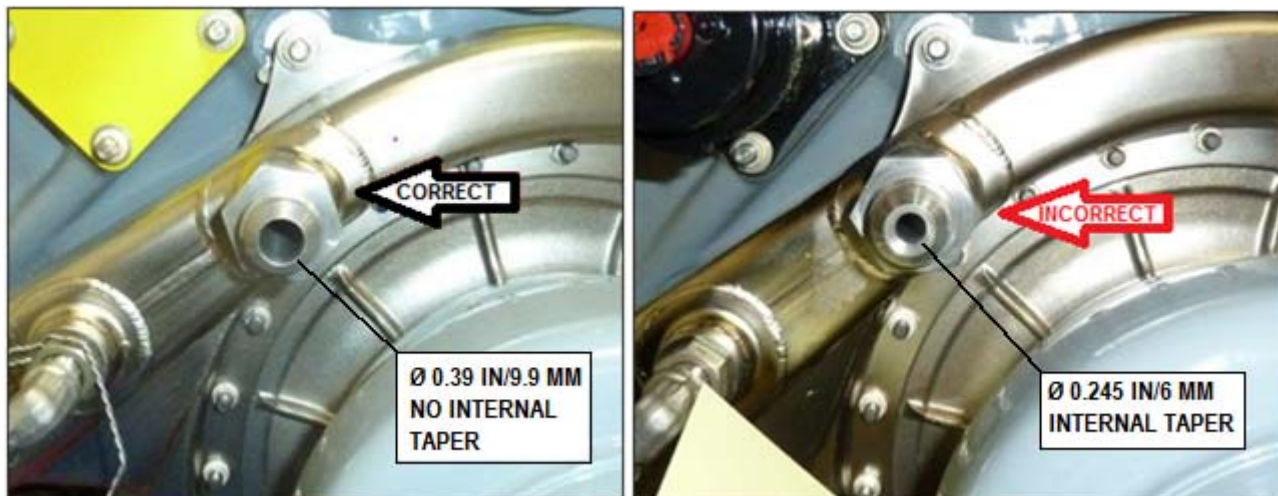

Figure 2. Bleed Air Reducer Restrictor (view looking forward); Correct installation shown on left, Incorrect installation shown on right
- 6.1.4 Using a bright light source, check that the bleed air fittings are installed correctly. Refer to Figure 2.